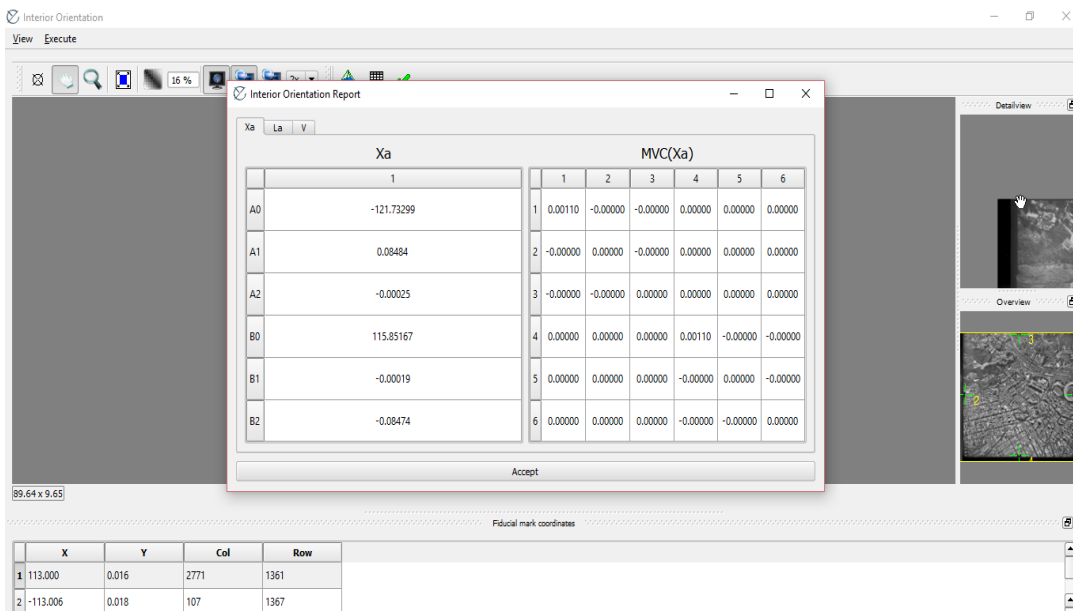

Figure 8 – Results of the IO
After running, the software will show the following screens with the parameters of the image (Figures 8 to 10):
- I. Figure 8 shows the vector of adjusted parameters (X_a) and its variance-covariance matrix ($MVC(X_a)$);